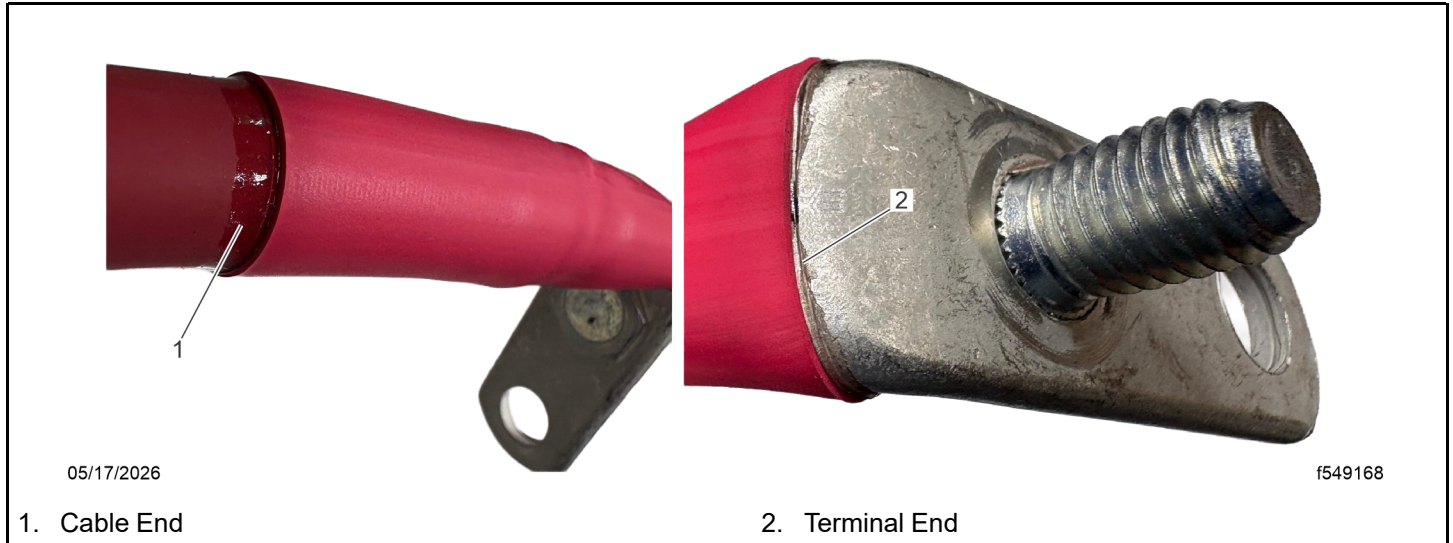

Fig 148, Continuous Adhesive Seal at Cable and Terminal Ends
- c. Confirm a continuous ring of adhesive can be seen around the circumference of the sleeve at both ends. See Fig. Fig. 148.